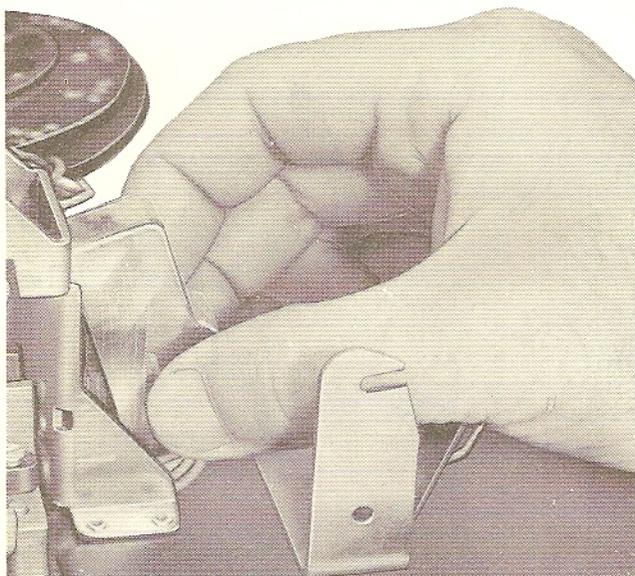

Fig. 26 — Removing Line Switch Cover
(1) Line Switch
- Remove line switch cover by depressing slides between thumb and index finger and tilting cover up and away from mounting (Fig. 26).
(2) 584C Key (500U and 501U telephone sets only) — clean contacts of key with 265C tool.